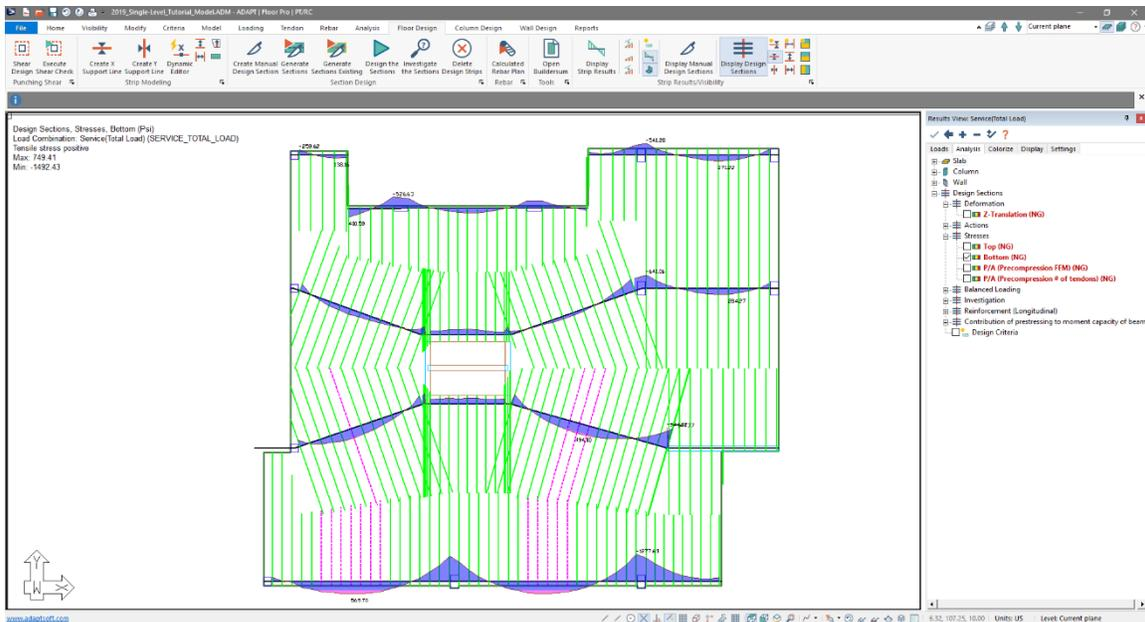

Figure 8-55
- The user should now see the bottom stress values along the X-direction support lines as shown in **FIGURE 8-55**.